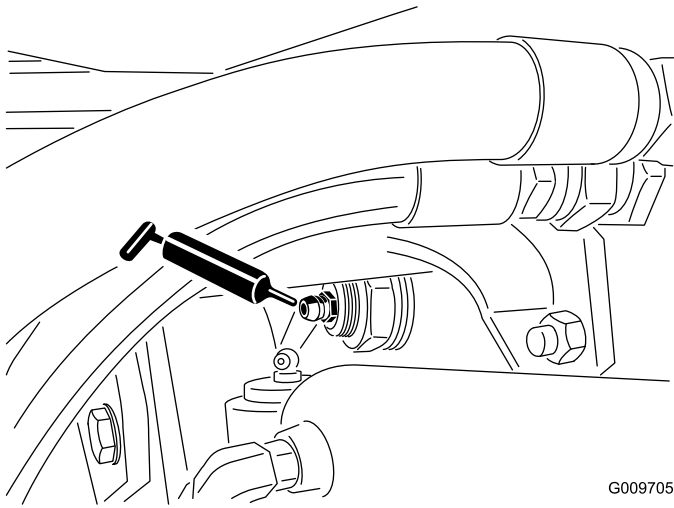

Figure 80
- Rear axle pivot bushings (2) (Figure 80)